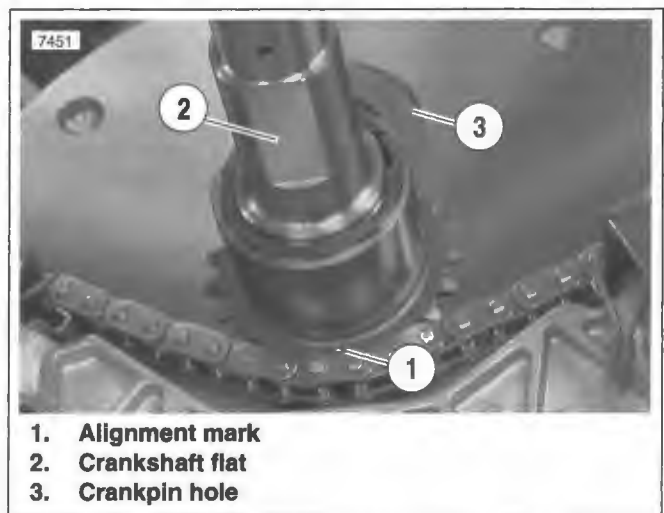

Figure 3-65. Flywheel Alignment Mark
4. See Figure 3-65. Rotate flywheel assembly to align the mark (1) on flywheel balance sprocket to be directly below (6 o'clock position) the crankpin hole (3).